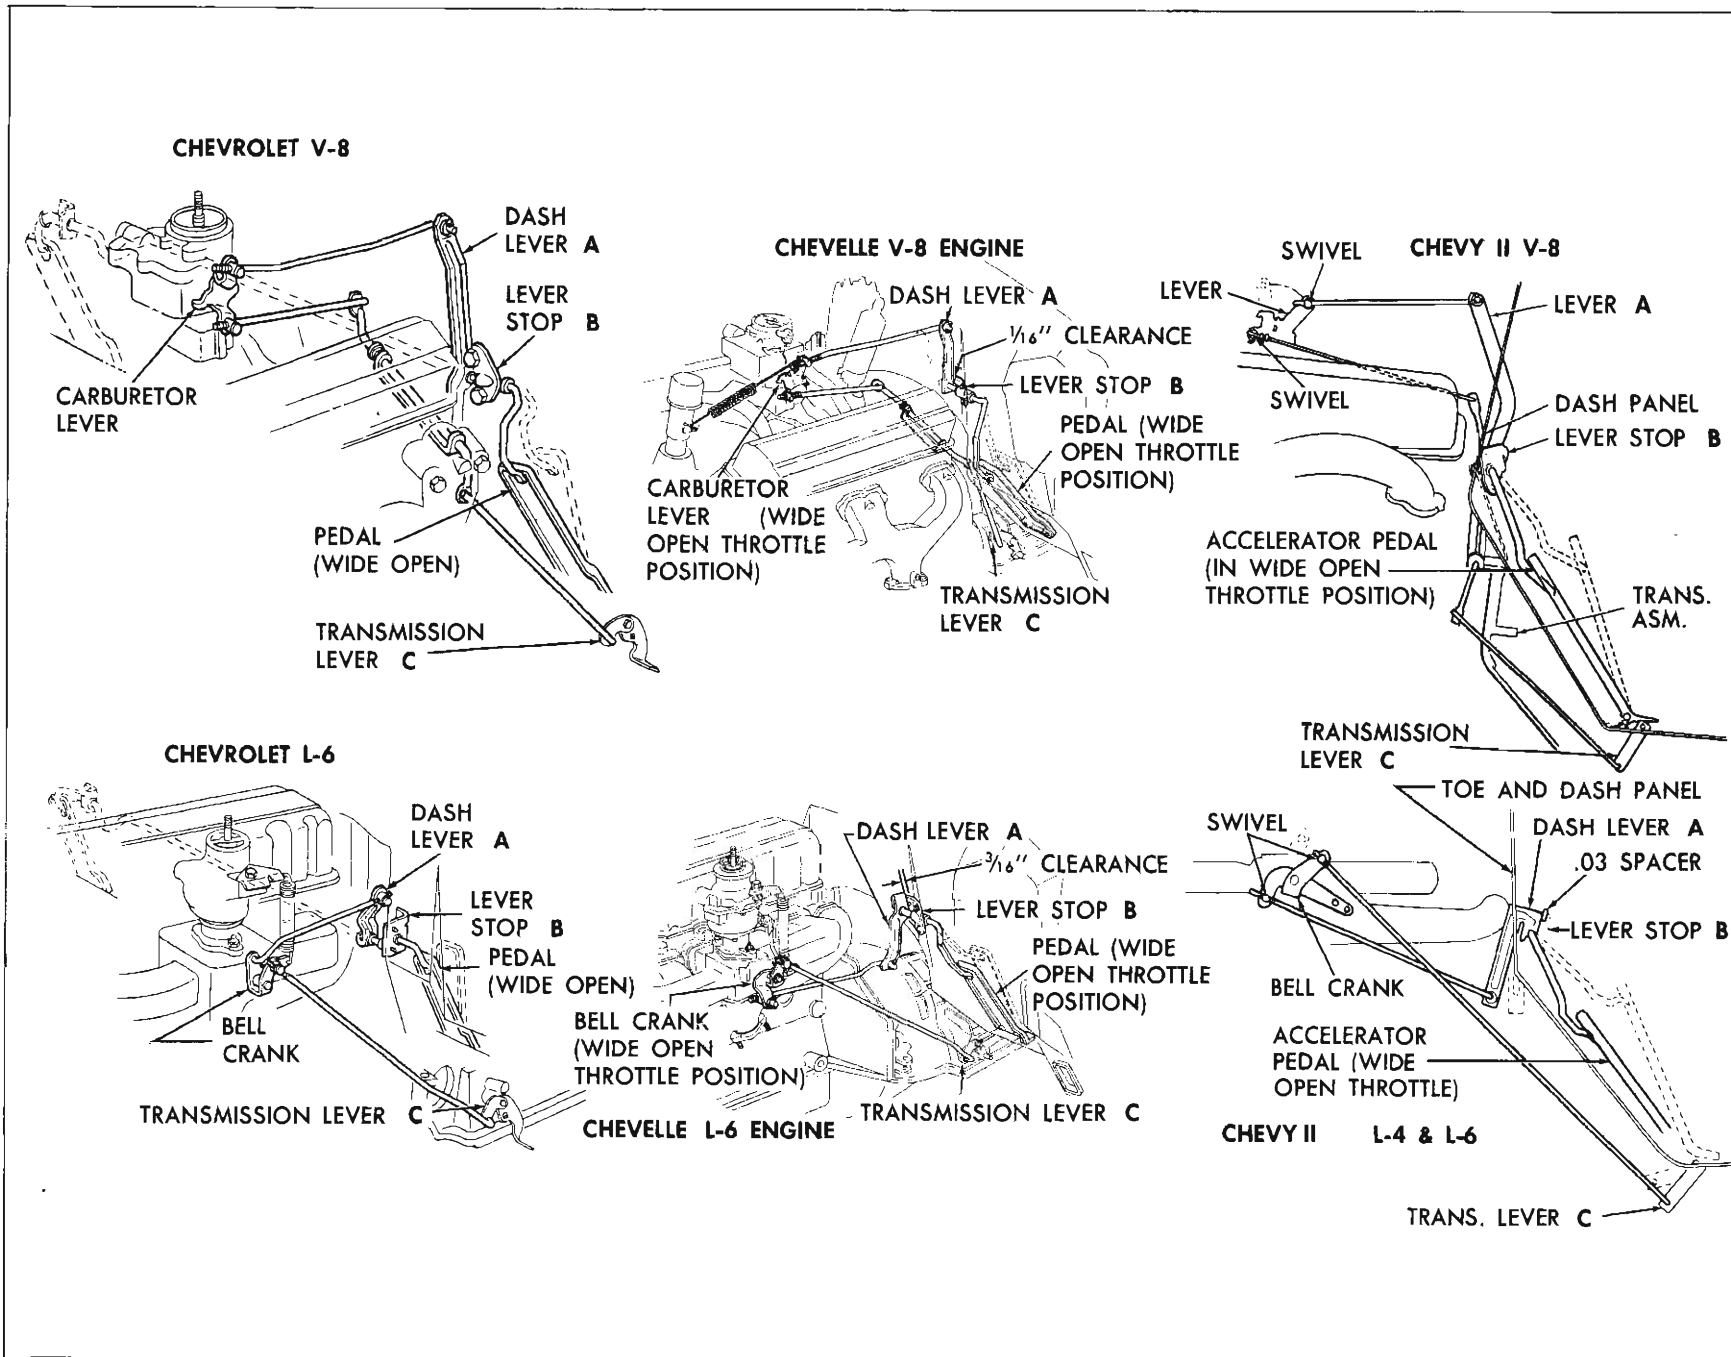

Fig. 8PG-TV Linkage Adjustments
**Throttle Valve Linkage Adjustment (See Fig. 8PG)**